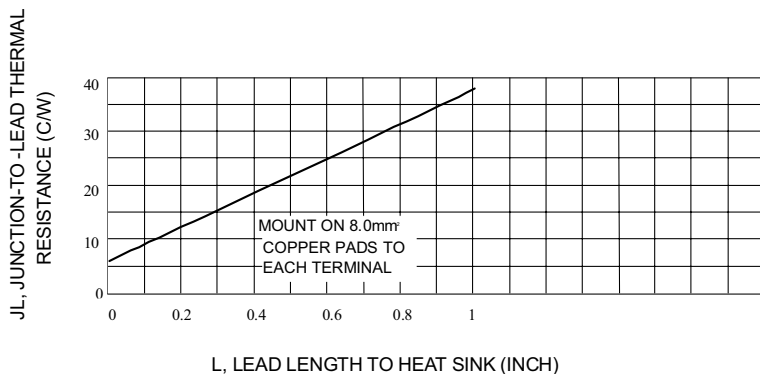
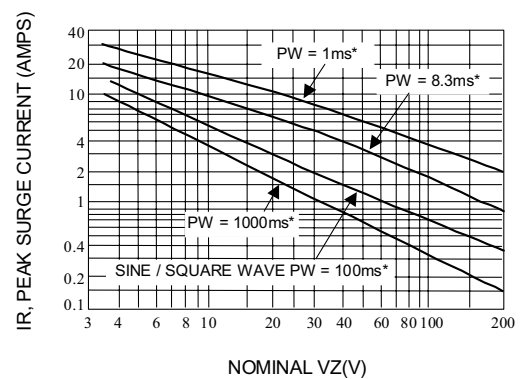

Fig. 4-TYPICAL THERMAL RESISTANCE
Fig. 5-MAXIMUM NON-REPETITIVE SURGE CURRENT VERSUS NOMINAL ZENER VOLTAGE (SEE NOTE 3)
3. SURGE CURRENT (I_r) - Surge current is specified as the maximum allowable peak, non-recurrent square-wave current with a pulse width, PW, of 8.3 ms. The data given in Figure 5 may be used to find the maximum surge current for a square wave of any pulse width between 1 ms and 1000ms by plotting the applicable points on logarithmic paper. Examples of this, using the 6.8v, is shown in Figure 6. Mounting contact located as specified in Note 3. ($T_A=25\text{ }^\circ\text{C}$).
ΔT_{JL} is the increase in junction temperature above the lead temperature and may be found from Figure 4 for a train of power pulses or from Figure 1 for dc power.
Data of Figure 4 should not be used to compute surge capability. Surge limitations are given in Figure 5. They are lower than would be expected by considering only junction temperature, as current crowding effects cause temperatures to be extremely high in small spots resulting in device degradation should the limits of Figure 5 be exceeded.
*** Data of Figure 3 should not be used to compute surge capability. Surge limitations are given in Figure 5. They are lower than would be expected by considering only junction temperature, as current crowding effects cause temperatures to be extremely high in small spots resulting in device degradation should the limits of Figure. 5 be exceeded